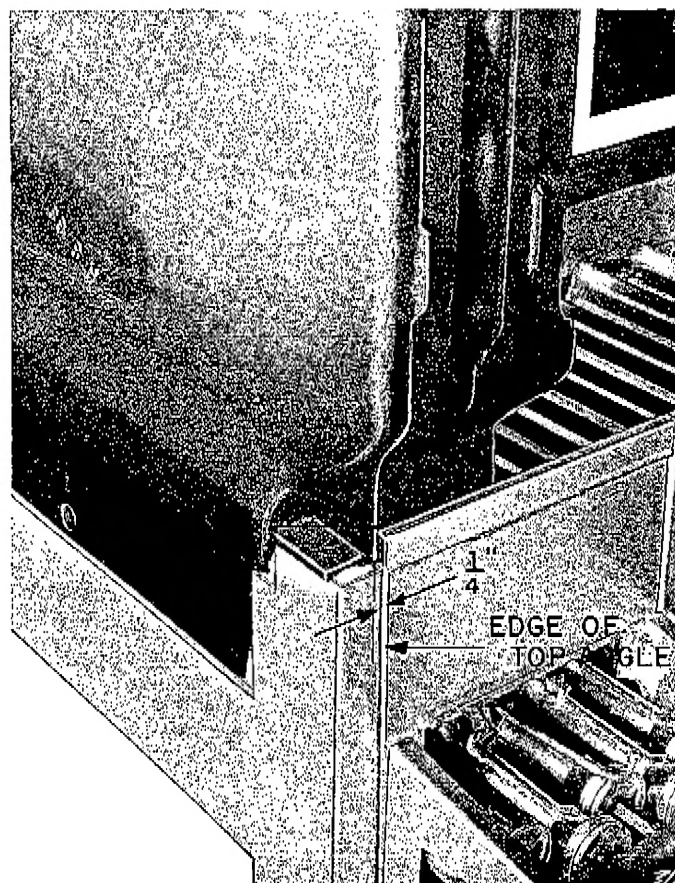
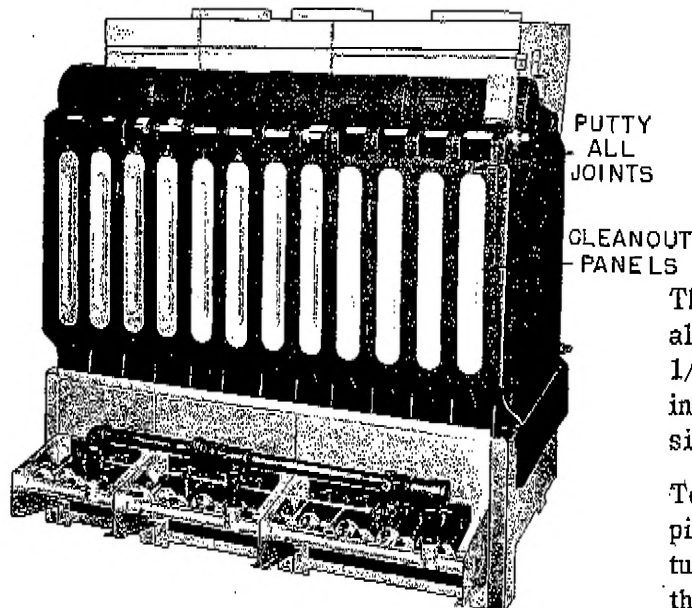

Figure 6 - Locating End Battery
Figure 9 - Install Clean Out Panels
Place the end section or battery on the end of the base with the parting line of the web 1/4 inch outside the front edge of the top angle of the base. Also the parting line on the back of the section should be 1/4 inch from the edge of the rear top angle of the base. See Figure 6. Be sure that the parting line of the intermediate sections fall on the base divisions. Note in Figure 9 how parting line of intermediate sections align with base dimensions.
2. Install clean out panels and tap them into place. Apply putty around the clean out panels. See Figure 9.